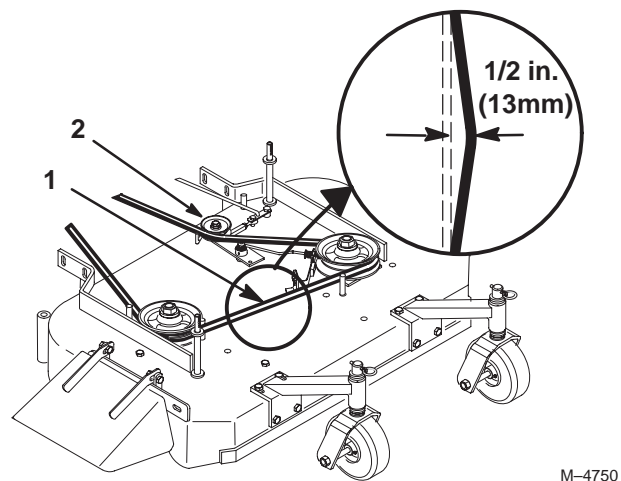

Figure 47
3. Remove idler pulley and then remove worn belt (Fig. 47).
Note: Proper belt tension is 10–15 lbs. with the belt deflected a 1/2 in. (13mm) halfway between pulleys (Fig. 47).